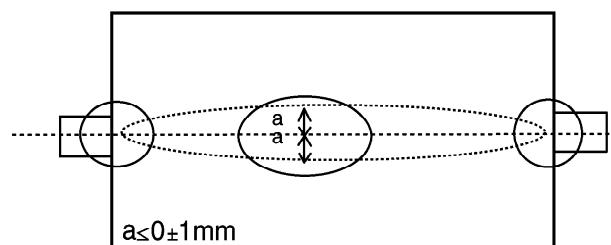

FIG. 4
5. Set 2 magnet of vertical position to up and down equally so that center part of CRT (Fig 4)